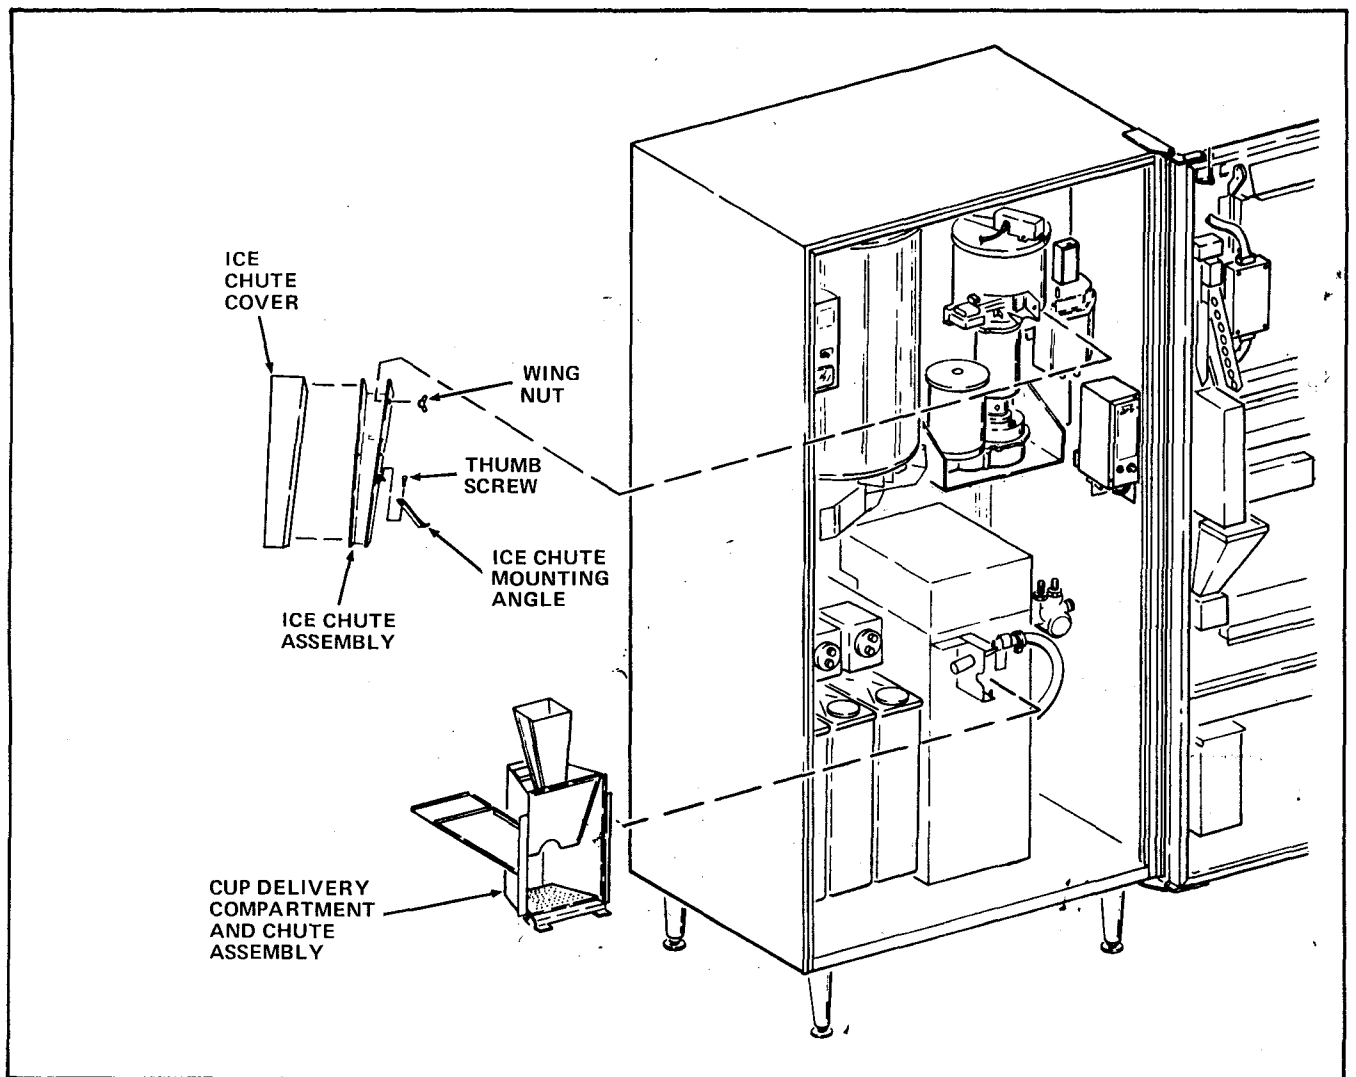

FIGURE 2
- Remove the Cup Delivery Compartment and Chute Assembly. See Figure 2.
5. Remove the Thumb Screw which attaches the Ice Chute Mounting Angle to the small flange on the Ice Chute Assembly; and remove the Wing Nut which attaches the Ice Chute Assembly to the Hopper. Lift away the Ice Chute Assembly. See Figure 2.
26. Install Ice Chute Assembly on the Hopper Assembly, by attaching with the No.10-32 Self Locking Wing Nut. See Figure 2.
27. Install the Ice Chute Mounting Angle, by attaching the end with a hole to the small flange on the Ice Chute Assemby using the No.10-32 x 3/8 Thumb Screw, and attach the other end of the Angle to the Trnasmision Box using the No.1/4-20 x 3/8 FHS Screw W/Lockwasher. See Figure 2.
28. Install the Ice Chute Cover, on the Ice Chute Assembly. See Figure 2.
30. Install the Cup Delivery Compartment and Chute Assembly. See Figure 2.